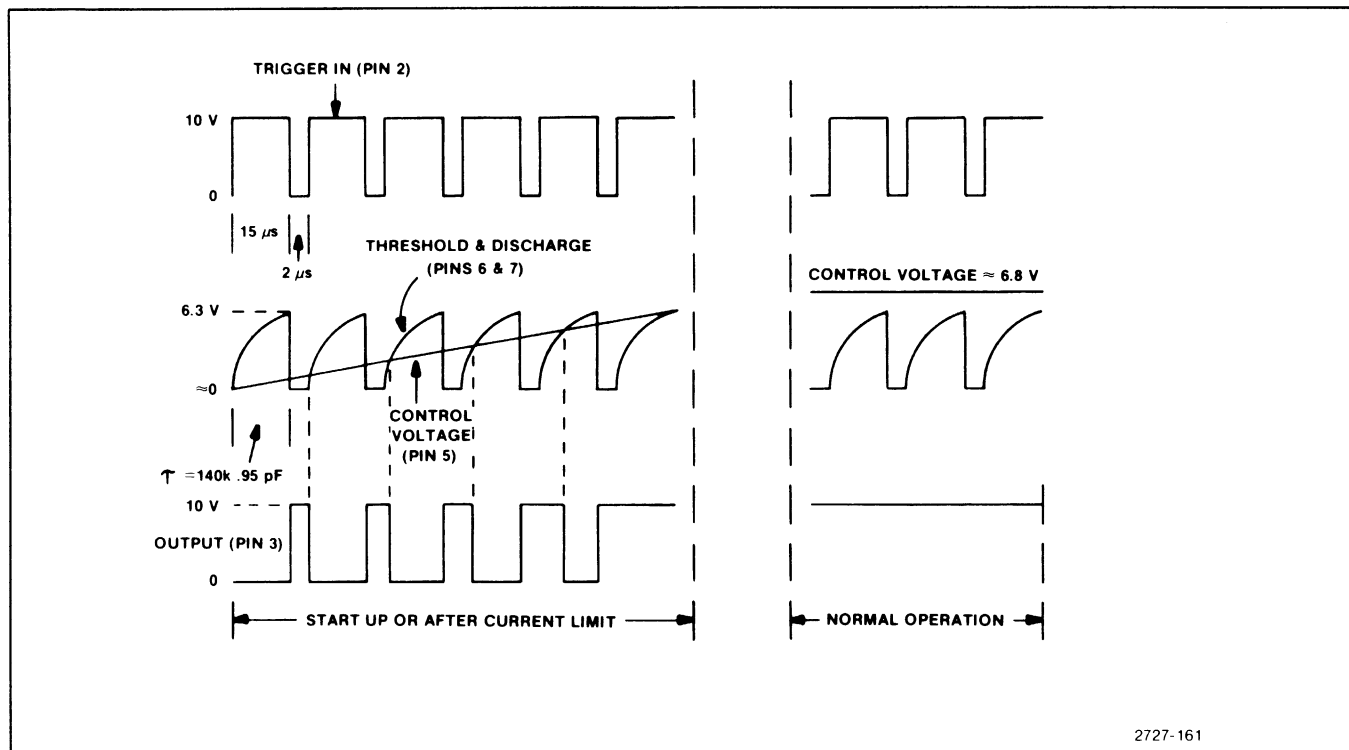

Figure 7-31. Timing waveforms for soft-start circuit.
**Soft-Start and Primary Over-Current Circuits.** The soft-start circuit consists of U6053 and associated components. Soft-start gradually increases the switching transistor's duty cycle at turn-on or after over-current shutdown to prevent excessive transistor current due to charging output capacitors. Refer to Figure 7-31 for timing waveforms.